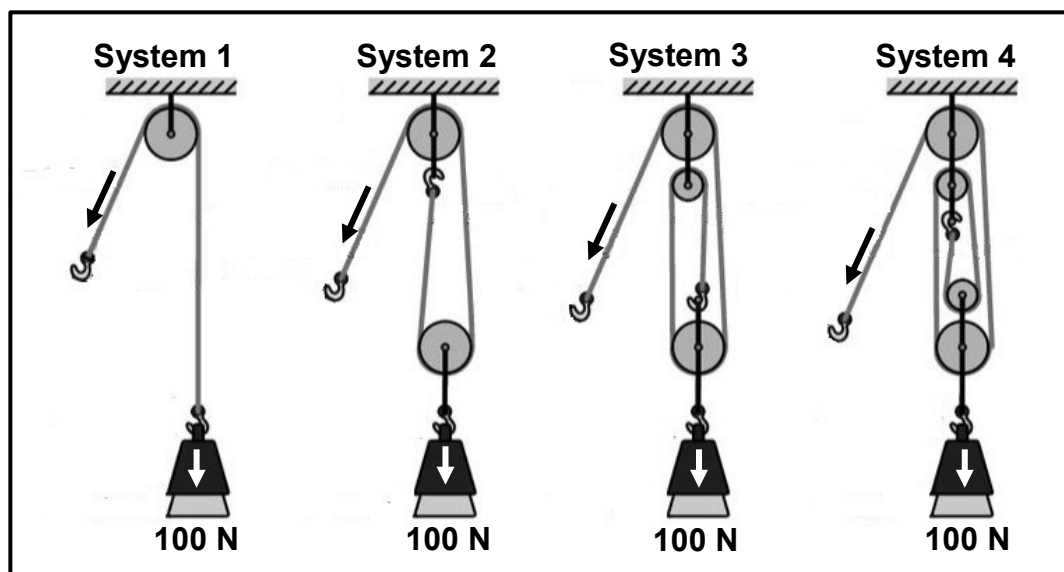

FIGURE 4.13
- (1)
- 4.13 Which pulley system shown in FIGURE 4.13 below will provide you with the most mechanical advantage?